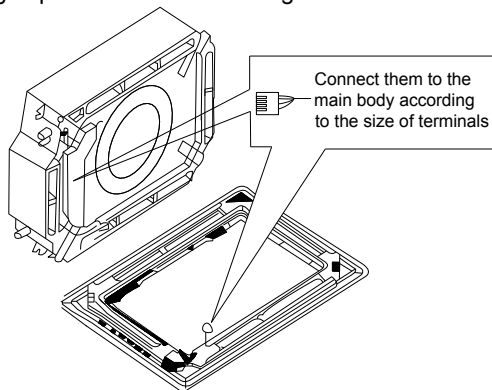

Fig. 4.34
- (4). Wire the swing flap motor as shown in Fig. 4.34.